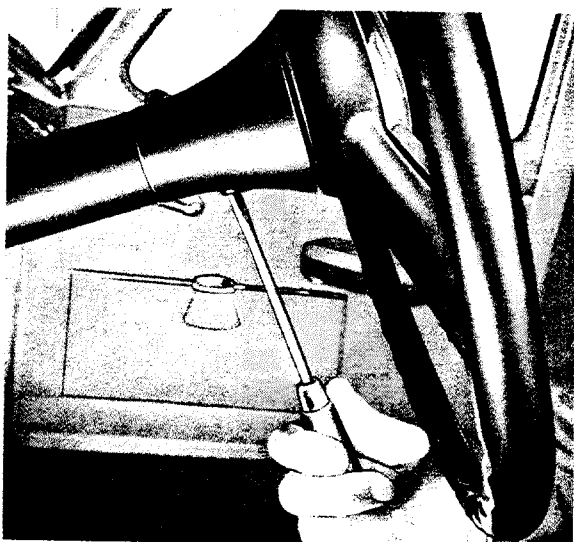

Fig. G-14a/2
2. Turn out clamping screw on steering coupling as well as setscrew in jacket tube (Fig. G 14a/2). Set steering column lock to position "Garage", remove the key and pull steering shaft out of steering coupling.